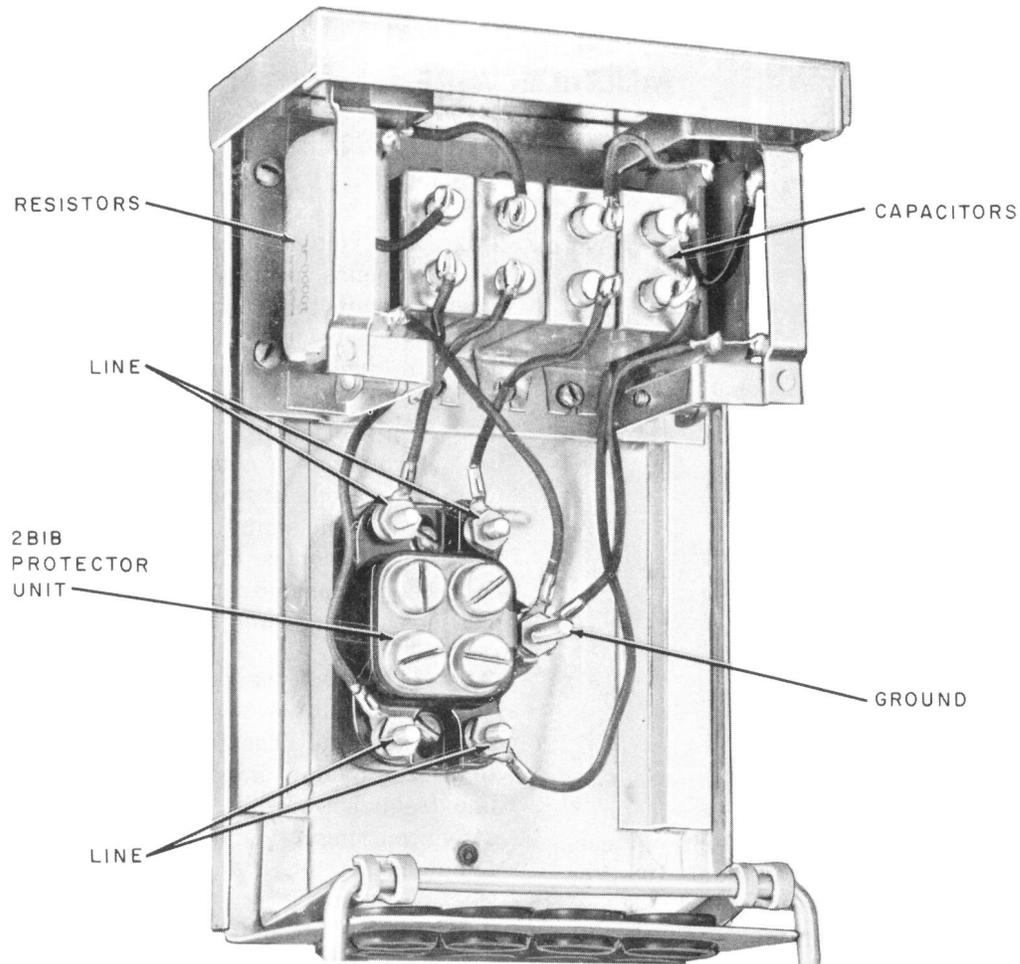

Fig. 1—104B Protector
3.02 Fig. 1 shows the inside of a 104B Protector, and indicates the ground binding post and the binding posts for the two telephone lines.